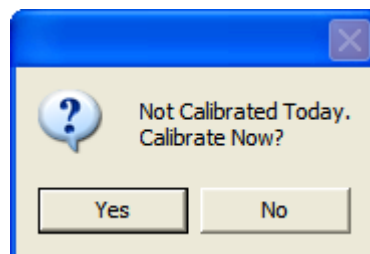
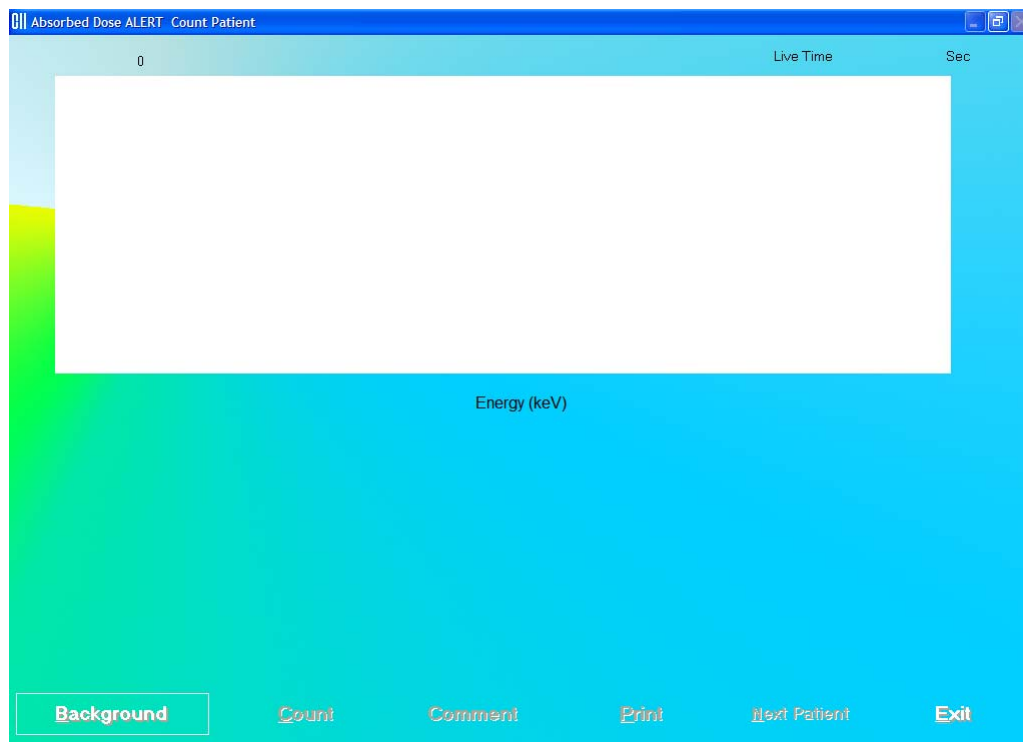

Figure 9-20
Figure 9-21 Count Patient Measurement Screen
9. To measure this patient now, click the **Count** button. Figure 9-21 Count Patient Measurement Screen will appear.
- To measure this patient now, click the **Count** button. Figure 9-21 Count Patient Measurement Screen will appear.
2. To begin the measurements, click the  button or press *Alt+C*. The screen appears as shown in Figure 9-21 Count Patient Measurement Screen.
**Note:** *If calibration has not been performed for the current day, you will be prompted with the screen as shown in Figure 9-20. After the calibration is complete, the program will return to the Emergency Screening Count Patient screen shown in Figure 9-21 Count Patient Measurement Screen.*